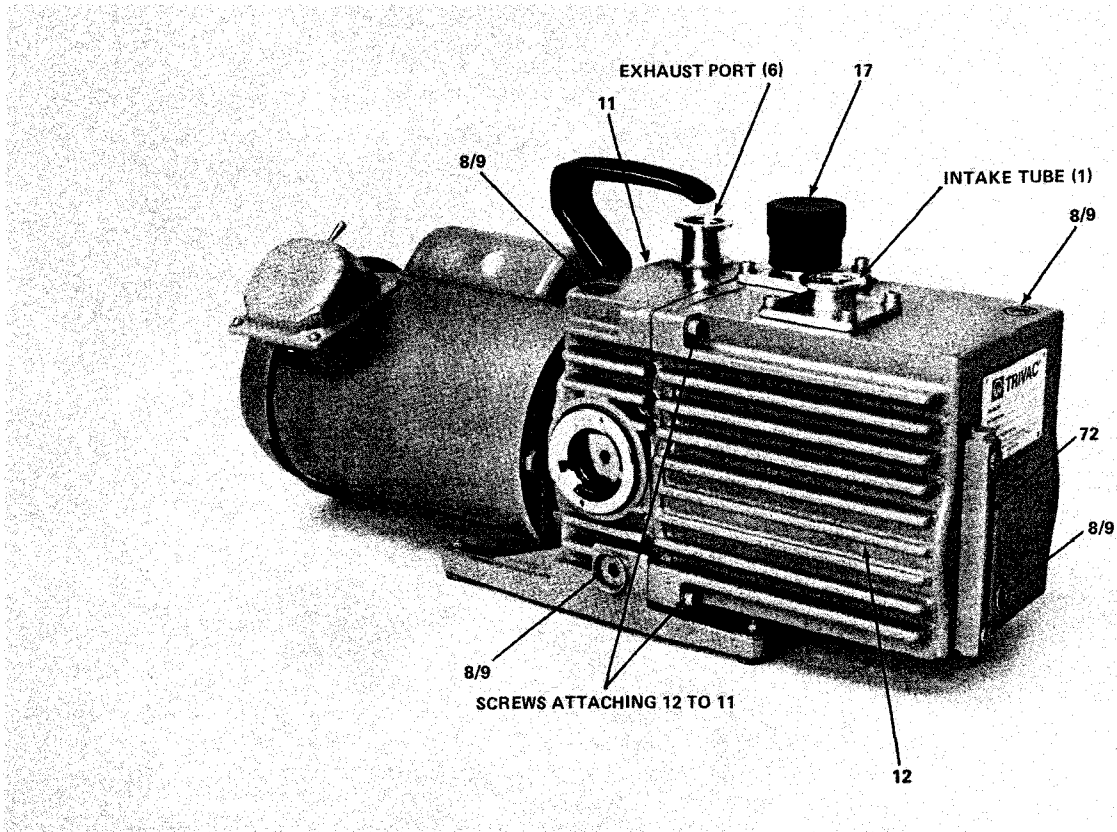

Figure 5-1. Assembled Pump (D16A Pump Model Shown)
Occasionally check the pump fluid for contamination by looking through the oil level glass (15) on the side of the pump. If the fluid in the oil-level glass (15) has an unusual color, is very dark, or appears dirty or turbid, refer to Section 4-3-2 to change the fluid. For anti-corrosive fluid, flakes in the fluid indicate that its corrosive resistance is spent and thus the fluid should be changed. The oil-sight tube (72) on the end of the oil casing does not give an accurate indication of the condition of the pump fluid (see Figure 5-1).
- B-1** Remove the KF clamp ring from the intake tube (1) and exhaust port (6) to disconnect the pump from your system.
- B-2** Remove the dirt trap with O-ring (2 and 3) from the intake tube (1) and the centering ring (7) from the exhaust port (6).
- B-3** Using an 8-mm allen wrench, remove the oil-fill and oil-drain plug screws (8) and flat gaskets (9) and allow the lubricating fluid to drain from the pump into a proper container (see Figure 5-1).
- B-4** Remove the intake tube (1) from the oil casing (12) as follows:
- Unscrew and remove the screws and washers that attach the intake tube to the oil casing (see Figure 5-1).
- a. Unscrew and remove the lower screws (or nuts) and washers that attach the oil casing (12) to the coupling housing (11) (see Figure 5-1).